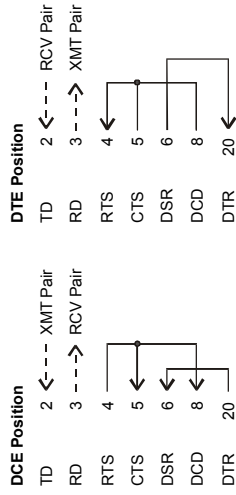

Figure 1. DCE/DTE Switch Configuration
- Local -RCV connects to remote -XMT(see *Figure 1*).